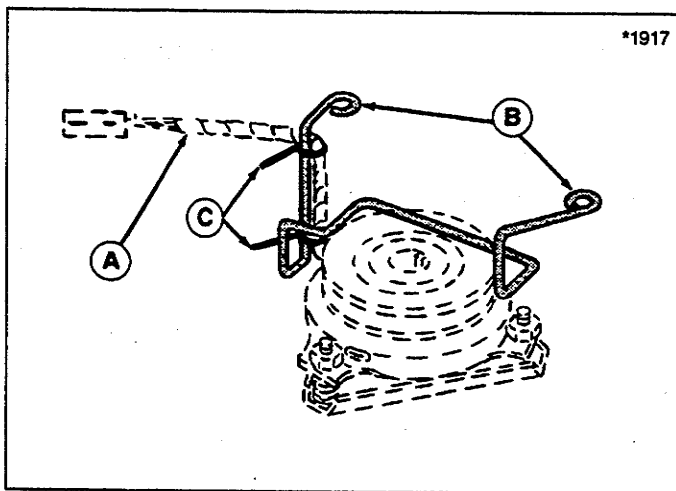

Figure 5. PTO Wire Harness
3. Connect wire harness for PTO as shown in figure 5. Secure wire to belt stop with reusable ties. If ties are damaged, tape wire securely at top and bottom of belt stop.
- See figure 5. Disconnect wiring harness from PTO harness plug. Remove the ties securing harness to belt stop.